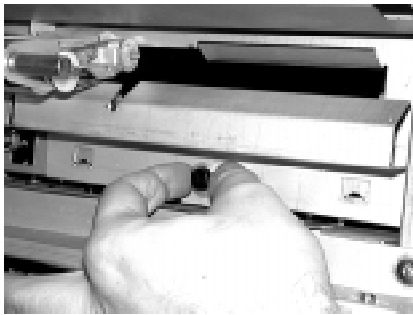

Figure 4-40 Unscrewing Plate
3. Unscrew the thumb screw holding the steel plate by rotating counterclockwise several turns. Place this plate aside for later assembly. See Figure 4-40.